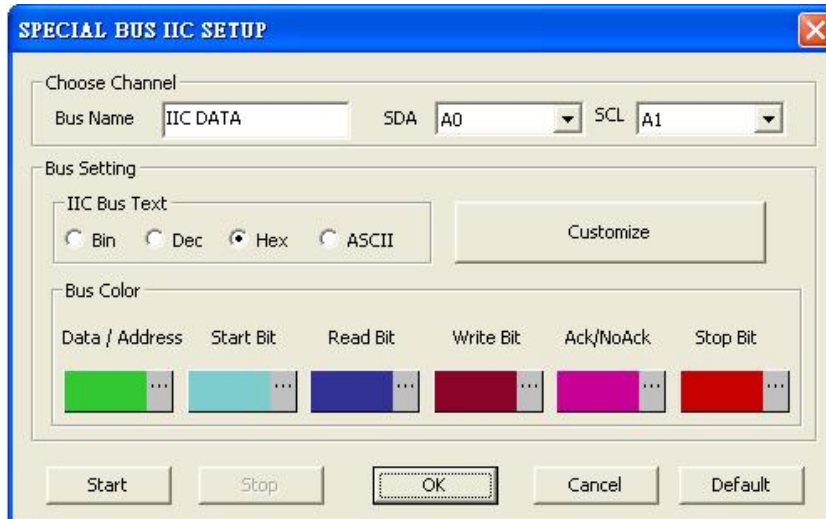

Fig 4-27 – Special Bus IIC Setup
- Step 3.** Click  icon or select the Analyze IIC wave on the Tools of the manual bar. The dialogue of the special Bus IIC setup (Fig 4-27) will appear.